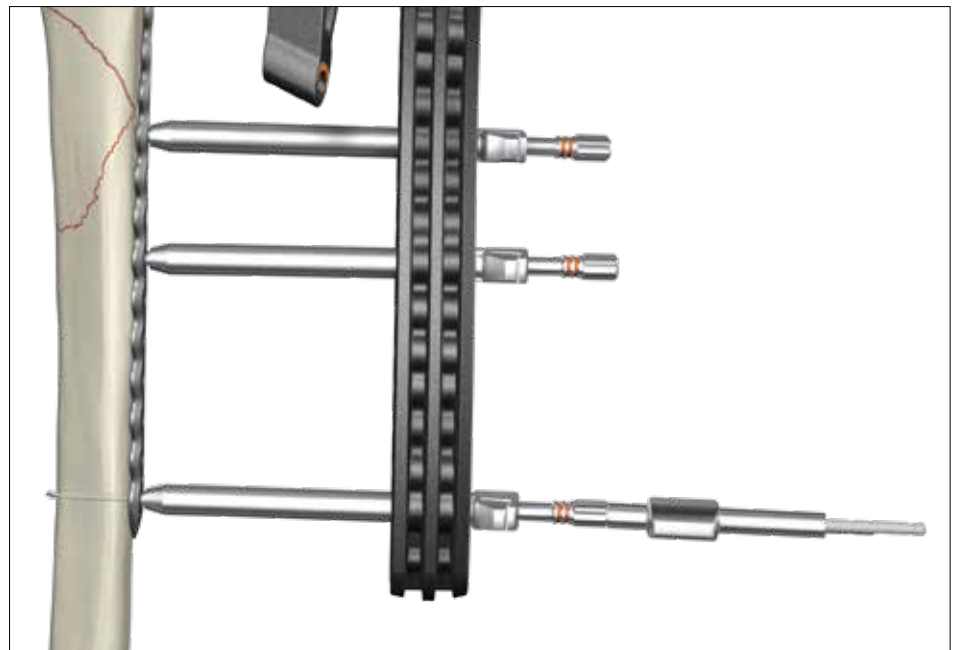

Fig. 11
Using plates with 10 holes or longer, it is recommended to insert additional tissue protection / drill sleeve (ref 703570 / 703791) assemblies in further holes in the mid way position of the plate shaft. Essentially, this will provide additional rigidity to the frame and will help to compensate plate deformity that might occur using a cortical screw to push the plate against the bone during shaft fixation (fig. 11).